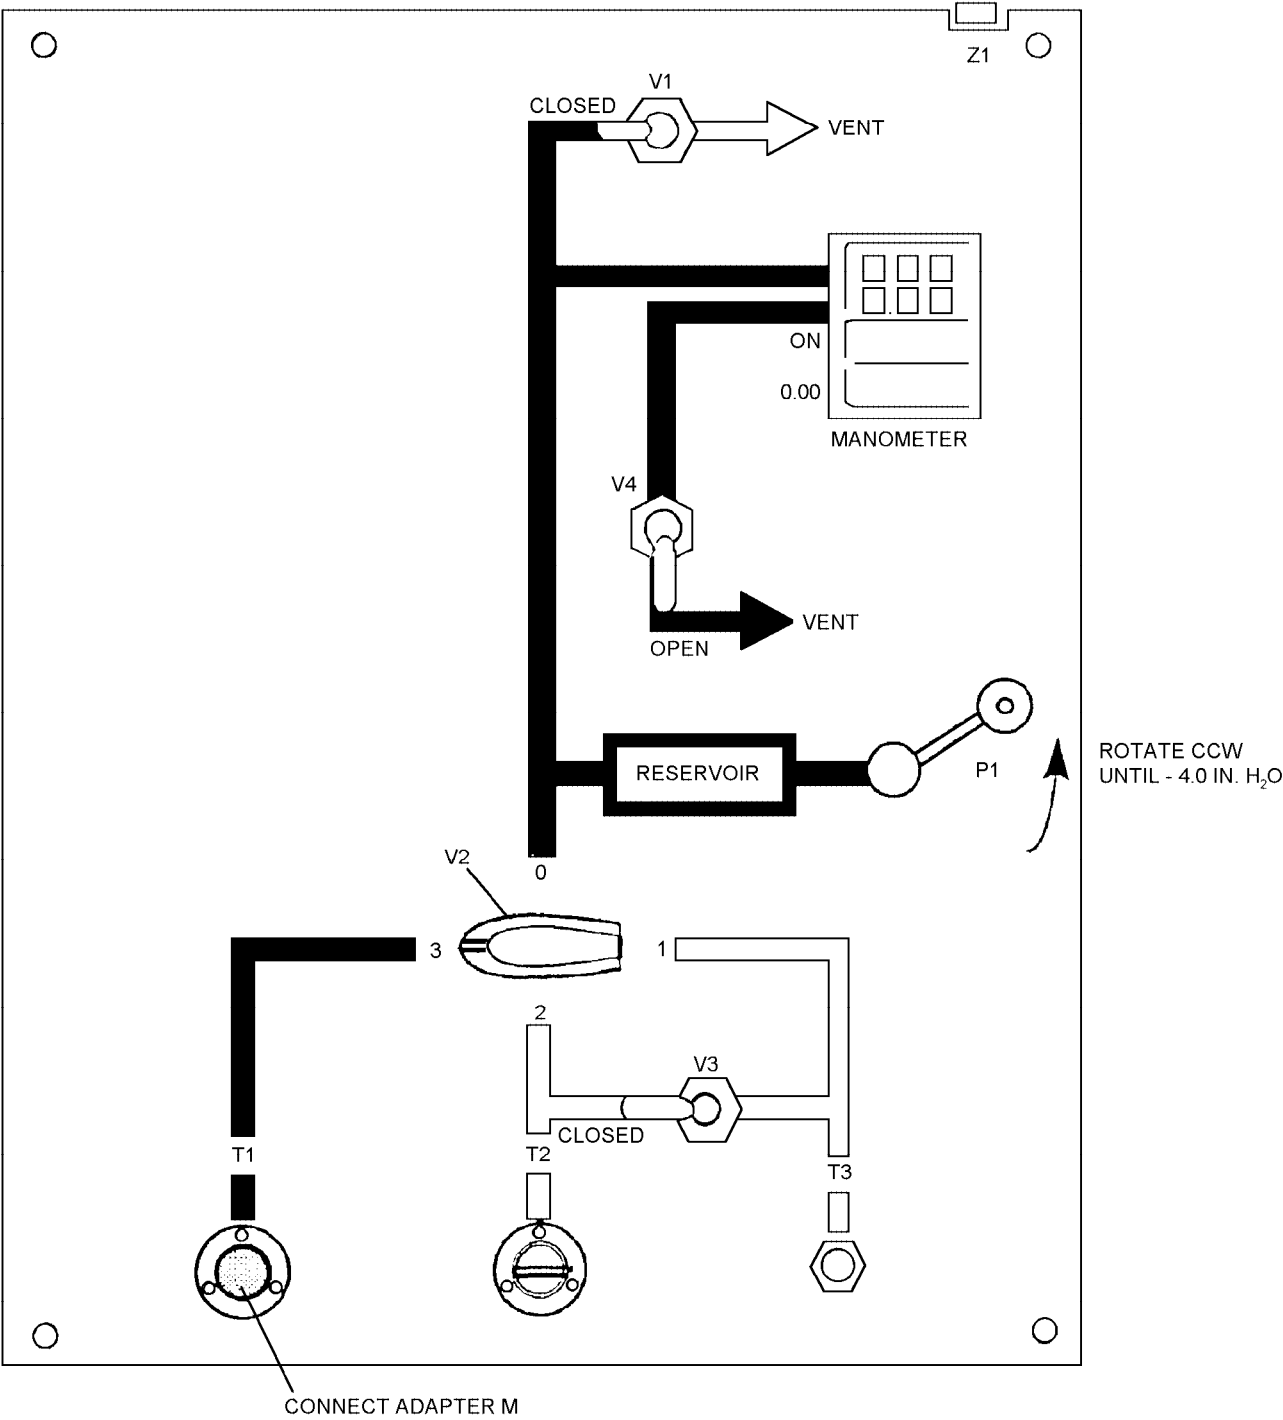

Figure 4-78. Inhalation and Hood Inlet Valves - Reverse Leakage Test
6. Connect free end of adapter M to T (figure 4-78).